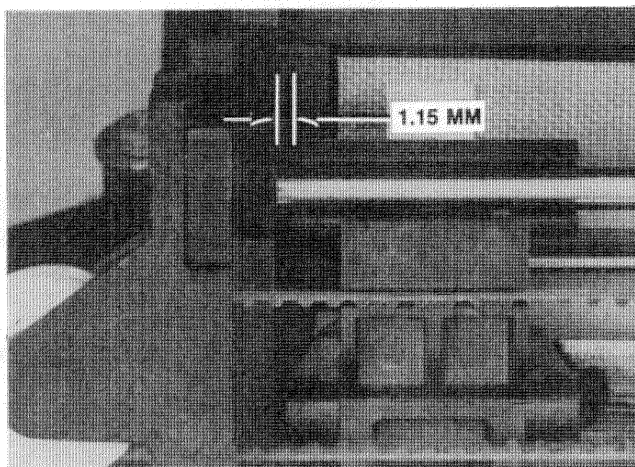

Figure 6-2. Clearance Between Print-Head Carriage and Bumpers
- c. Push the print head carriage to the left until it is about 0.045 inch (3/64 inch or 1.15 millimeters) from the rubber bumper at the left end of the guide rod. (See figure 6-2.)